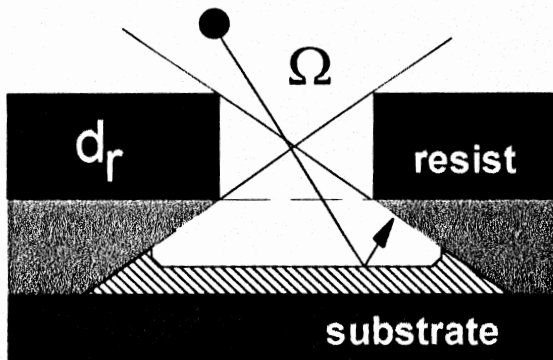

Fig. 5
- resist thickness influences the size of space angle, which is allowed to touch the unmasked surface (Fig. 5),